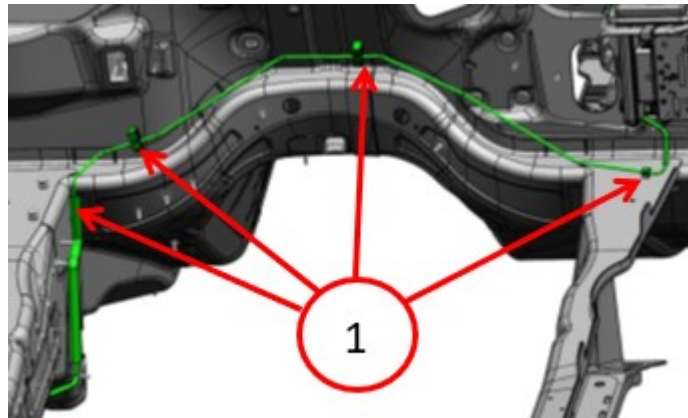

Fig. 5
12. Trace brake line retainers along dash panel and separate the brake lines from their retainers (Fig. 5) .